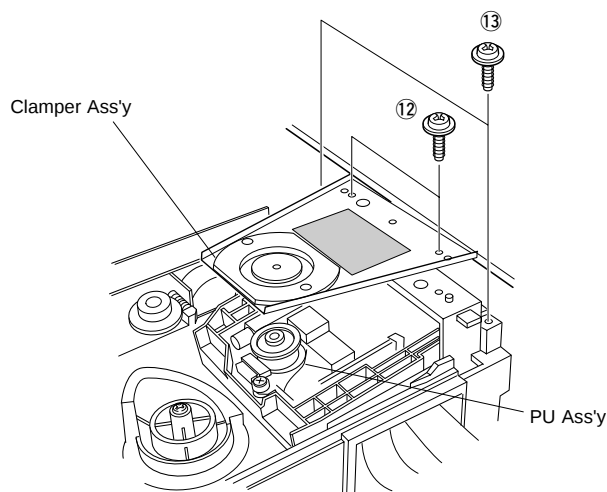

Fig. 7
Remove 2 screws (⑫) in Fig. 7.
- Remove 2 screws (⑬) in Fig. 7.